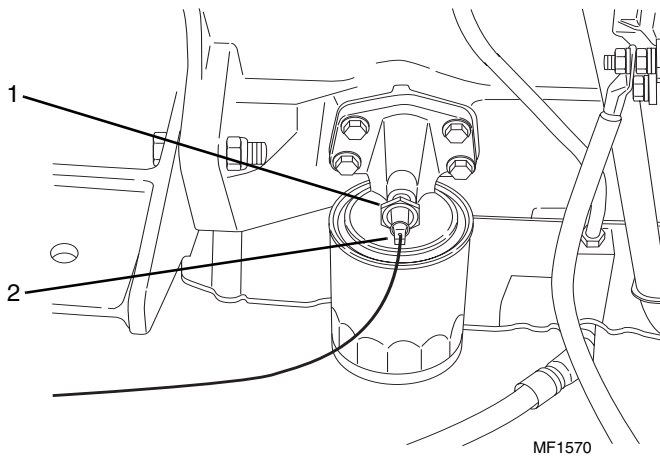

Figure 8-8 Engine Oil Pressure Switch
3. Locate the engine oil pressure switch (Fig. 8-8, 1) on right side of engine. Disconnect the wire (2) from the switch.
4. The oil pressure switch (Fig. 8-8, 1) can be tested while installed on the engine. Connect an ohmmeter or continuity tester between the switch terminal and any ground point on the engine.